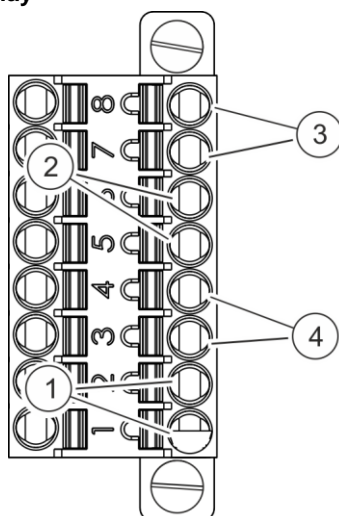

Fig. 29: Relay
- A failure detected in the system or a power loss activates the **SystemReady relay (Relay1, Fig. 29/1)**¹.
- The “Oil mist pre-warning” or “Load reduction level reached” messages activate the **PreAlarm relay (Relay2, Fig. 29/4)**.
- A pressure exceeding or falling below the set limit value activates the **PressureAlarm relay (Relay3, Fig. 29/2)**.
- The “Oil mist autostop value reached” message activates the **Alarm relay (Relay4, Fig. 29/3)**.